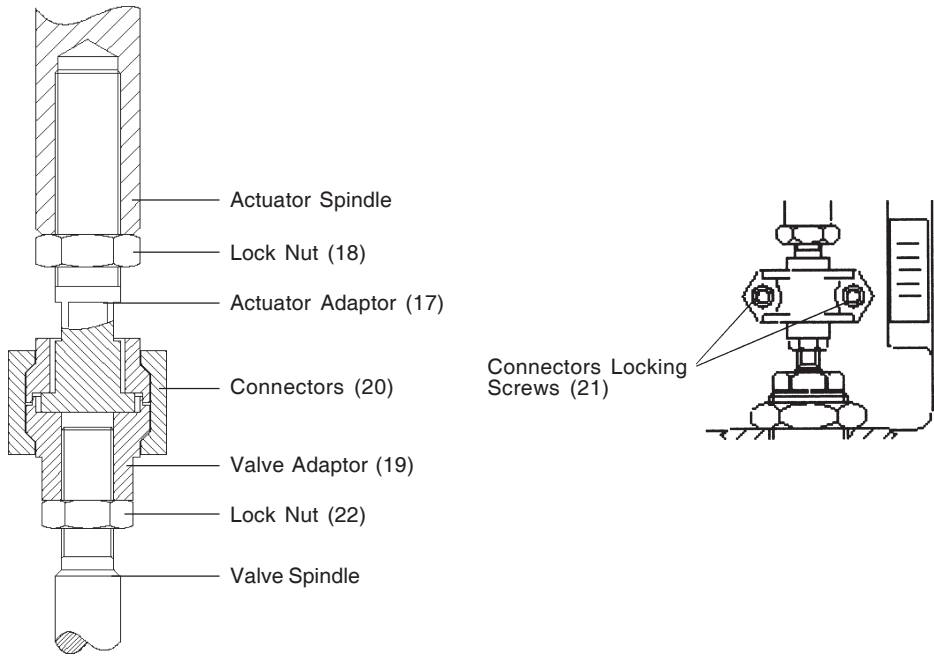

Fig. 4 Assembly of Actuator Adaptor, Valve Adaptor and Connectors
With the valve plug remaining on its seat adjust the actuator spindle adaptor until it presses tightly against the valve spindle. Finger tighten lock nut (18). See Fig. 4 for correct installation.